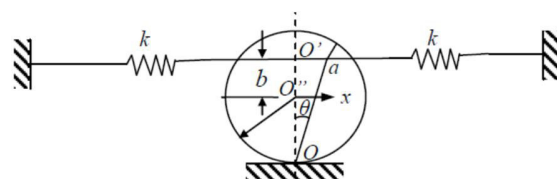

Fig. 2
- Find the natural frequency of the system shown in Fig.2.